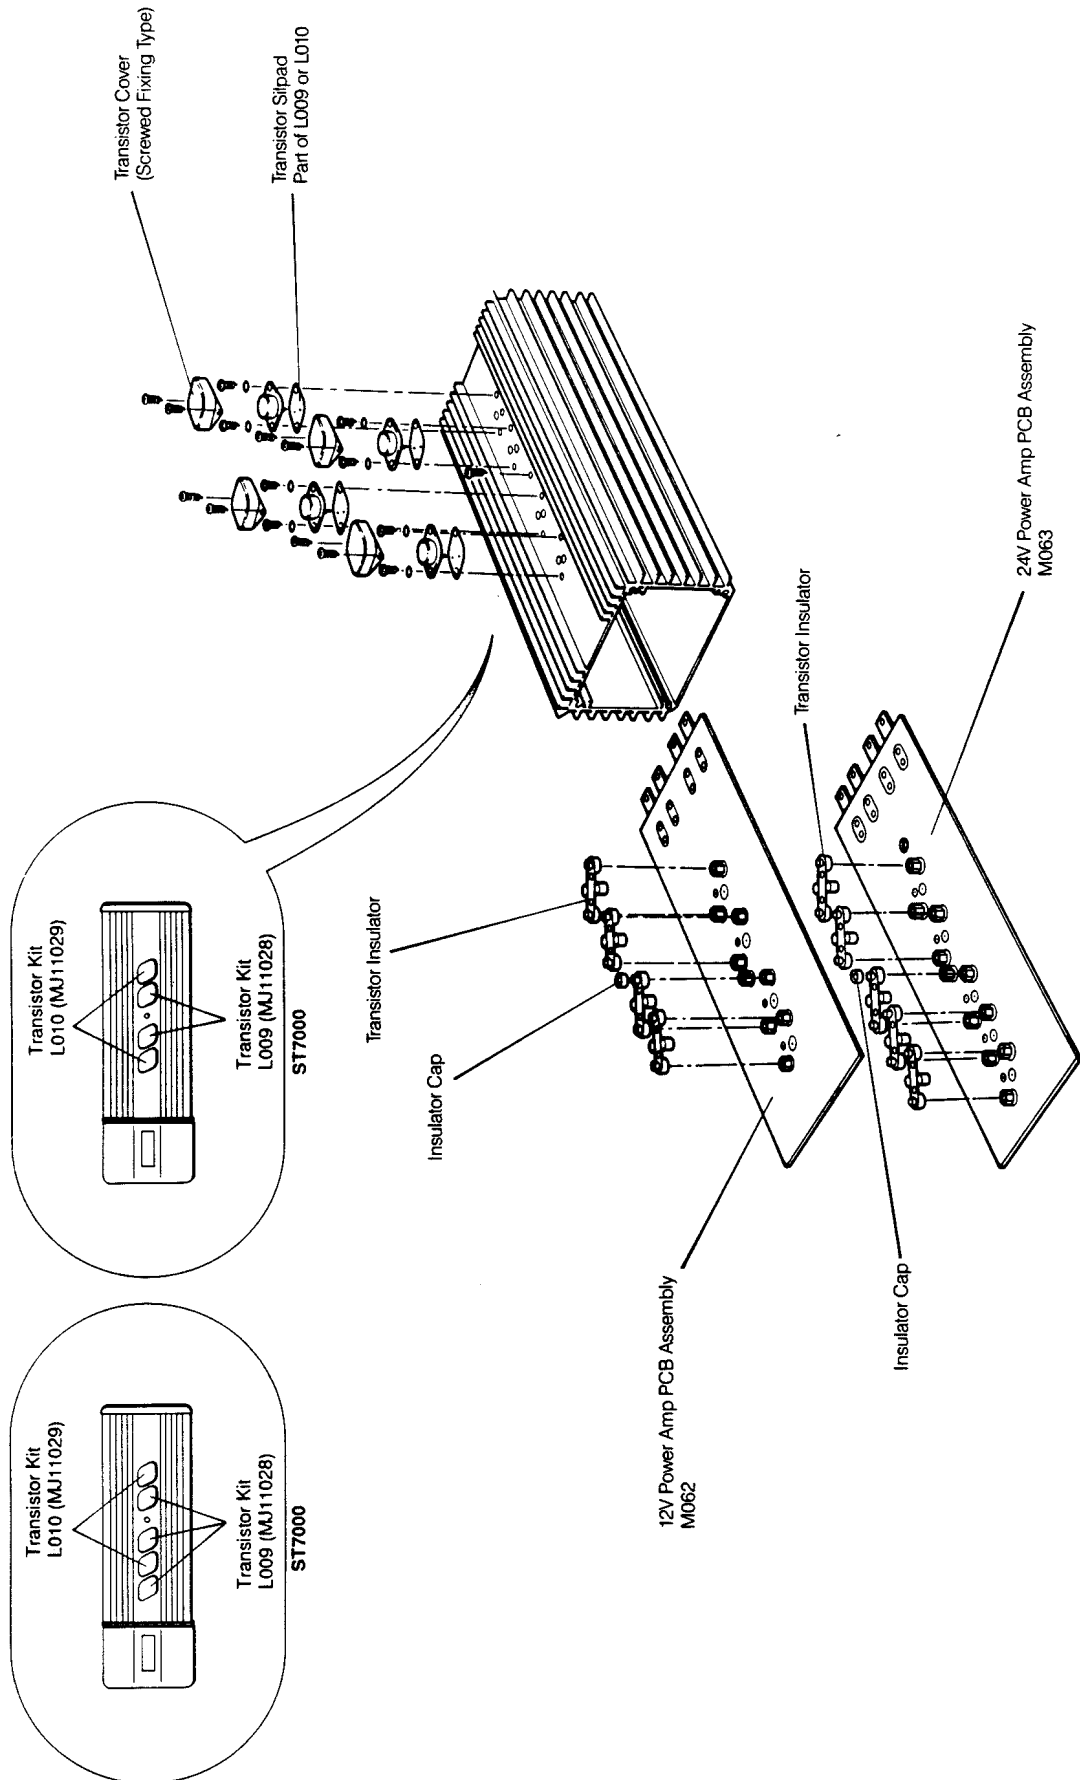

Fig. 2.
3. Ensure that the correct transistor type is placed at each location. (Fig. 2).